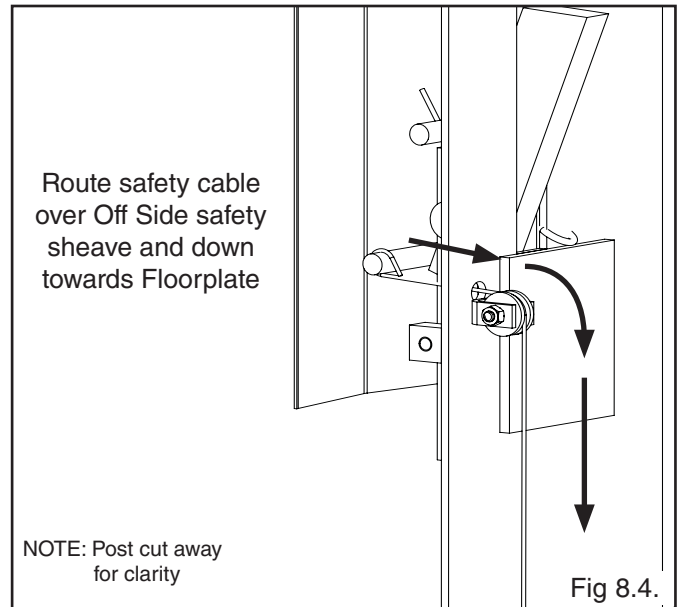

Fig 8.4.
3. Route the cable over the sheave and route it towards the baseplate safety sheave. (See Fig 8.4)